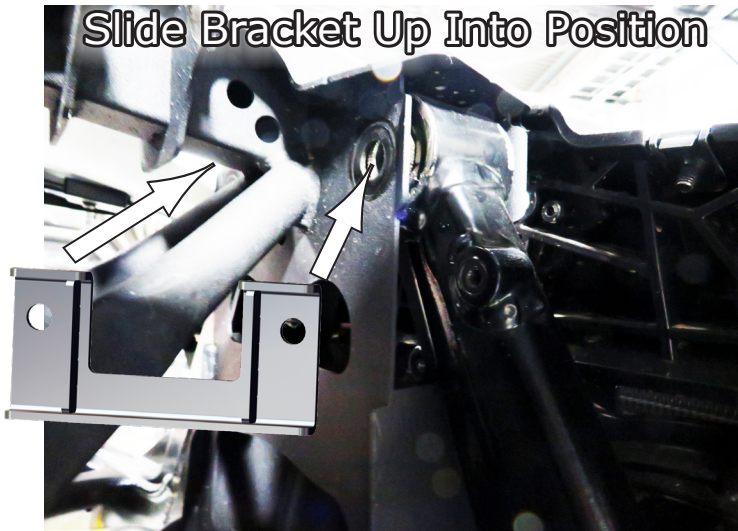

Fig.21a
21. After the upper bolts are out, you can now install the **Upper Front Bracket**. Install by sliding the bracket up into position so that the bolt holes in the bracket align with the holes for the upper bolts you previously removed. Repeat for opposite side, then tighten bolts securely. See **Fig.21a-d**.